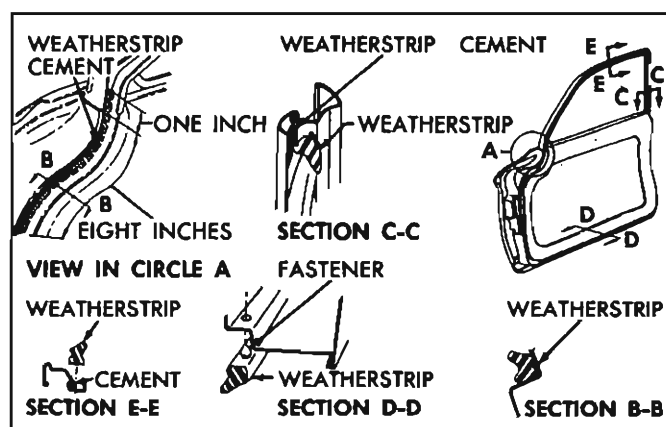

Fig. 4—Front Door Weatherstrip Installation
3. With the new vinyl type door weatherstrips, a vinyl weatherstrip adhesive must be used. This cement will effectively adhere to the vinyl weatherstrip without attacking the paint finish. Prior to installation of weatherstrip, apply a continuous bead of vinyl weatherstrip adhesive along entire length of channel in door upper frame except convertibles. On all styles, apply a bead of vinyl weatherstrip adhesive for a minimum length of eight (8) inches on door hinge pillar (cove area), and a minimum length of one (1) inch on door lock pillar (fig. 4).